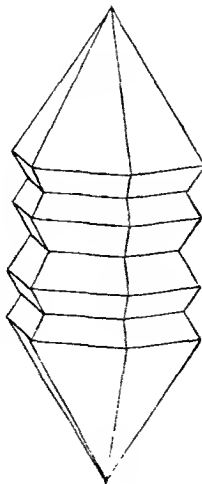

Figure 170. Witherite, a Form Common in England
**Witherite** is barium carbonate,  $\text{BaCO}_3$ . It is a comparatively rare mineral, with *hardness*: 3.5; *specific gravity*: 4.3; *color*: white. Usually in *crystals* of pseudo-hexagonal form, with pyramids piling up one on top of another, figure 170. Its best locality is at Hexham in the North of England.